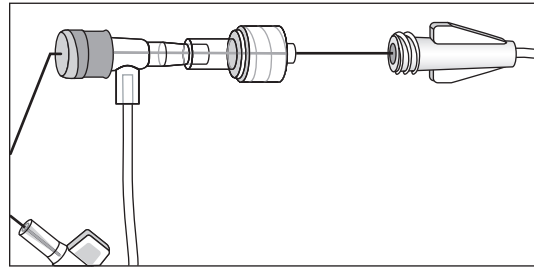

Figure 24
**Warning:** Remove placement wire and Luer-Lock sidearm assembly as a unit (see Figure 24). Failure to do so may result in wire breakage.